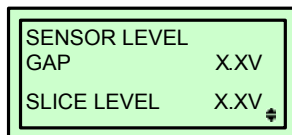

Figure 6-15, Slice Level Menu Screen
- 7 Advance to the Slice Level menu screen (Figure 6-15).